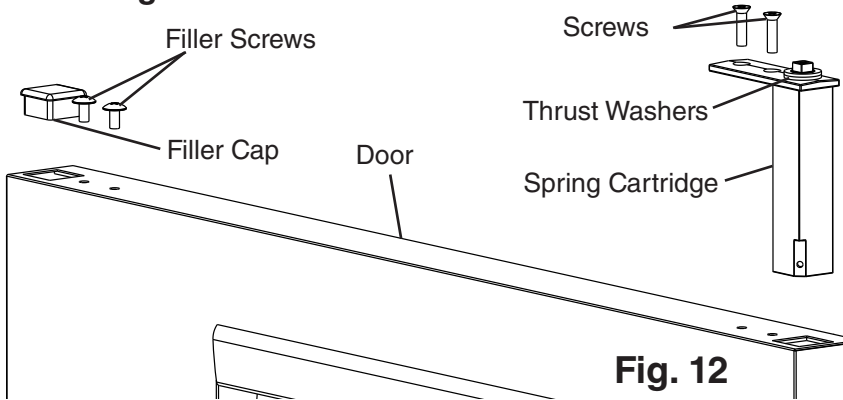

Fig. 12
- 8) Remove the filler cap, filler screws, and spring cartridge. See Fig. 12. Leave the thrust washers in place on the spring cartridge. **NOTICE! Spring cartridge may be difficult to remove. Be careful not to damage the finish.**